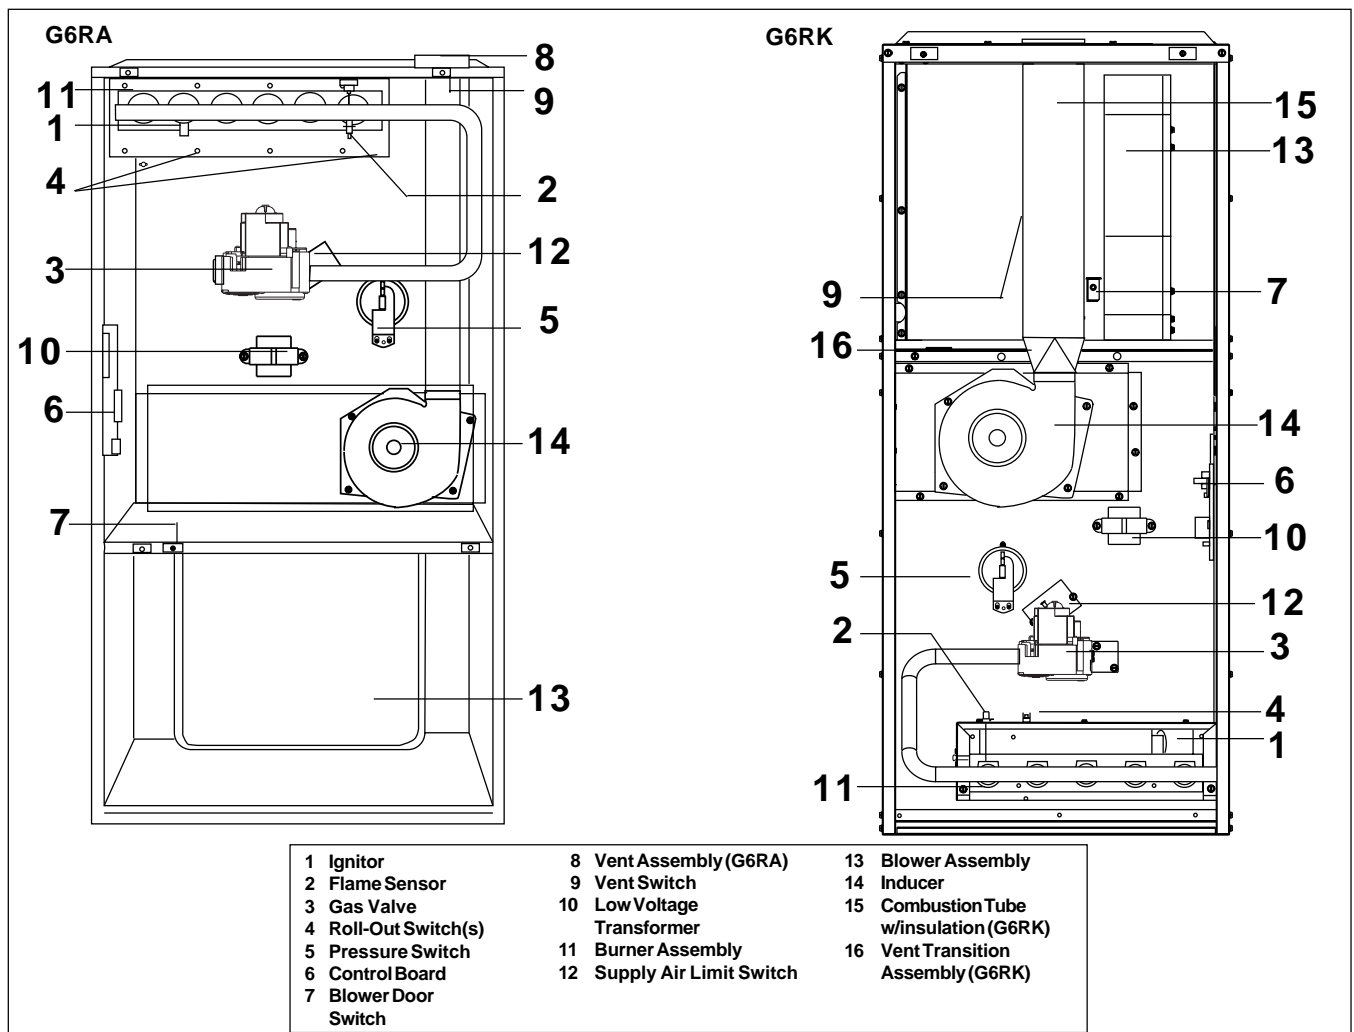

Figure 19. Component Parts
If the furnace locks out after 5 attempts for ignition, it will try again every hour if a call for heat remains. If the inducer and circulating air blowers are operating, and items 1 through 8 have been checked, press the red reset button on the vent safety switch. (See Figure 19.) If the furnace operates after depressing the reset button, contact a qualified serviceman to identify and repair the problem.
If the furnace continues to not operate, depress the red reset button on the flame roll out switches. (See Figure 19.) If the furnace operates after depressing the reset buttons, contact a qualified serviceman to identify and repair the problem.